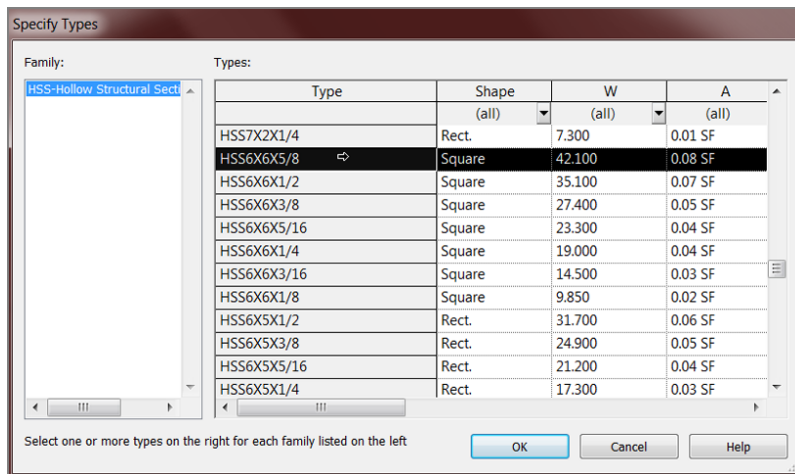

FIGURE 8.23: Select HSS-Hollow Structural Section-Column, and choose the HSS6×6×5/8 (HSS152.4×152.4×12.7) type.
7. Double-click HSS-Hollow Structural Section-Column.rfa (or M_HSS-Hollow Structural Column.rfa). A dialog opens, enabling you to select the type, as shown in Figure 8.23.